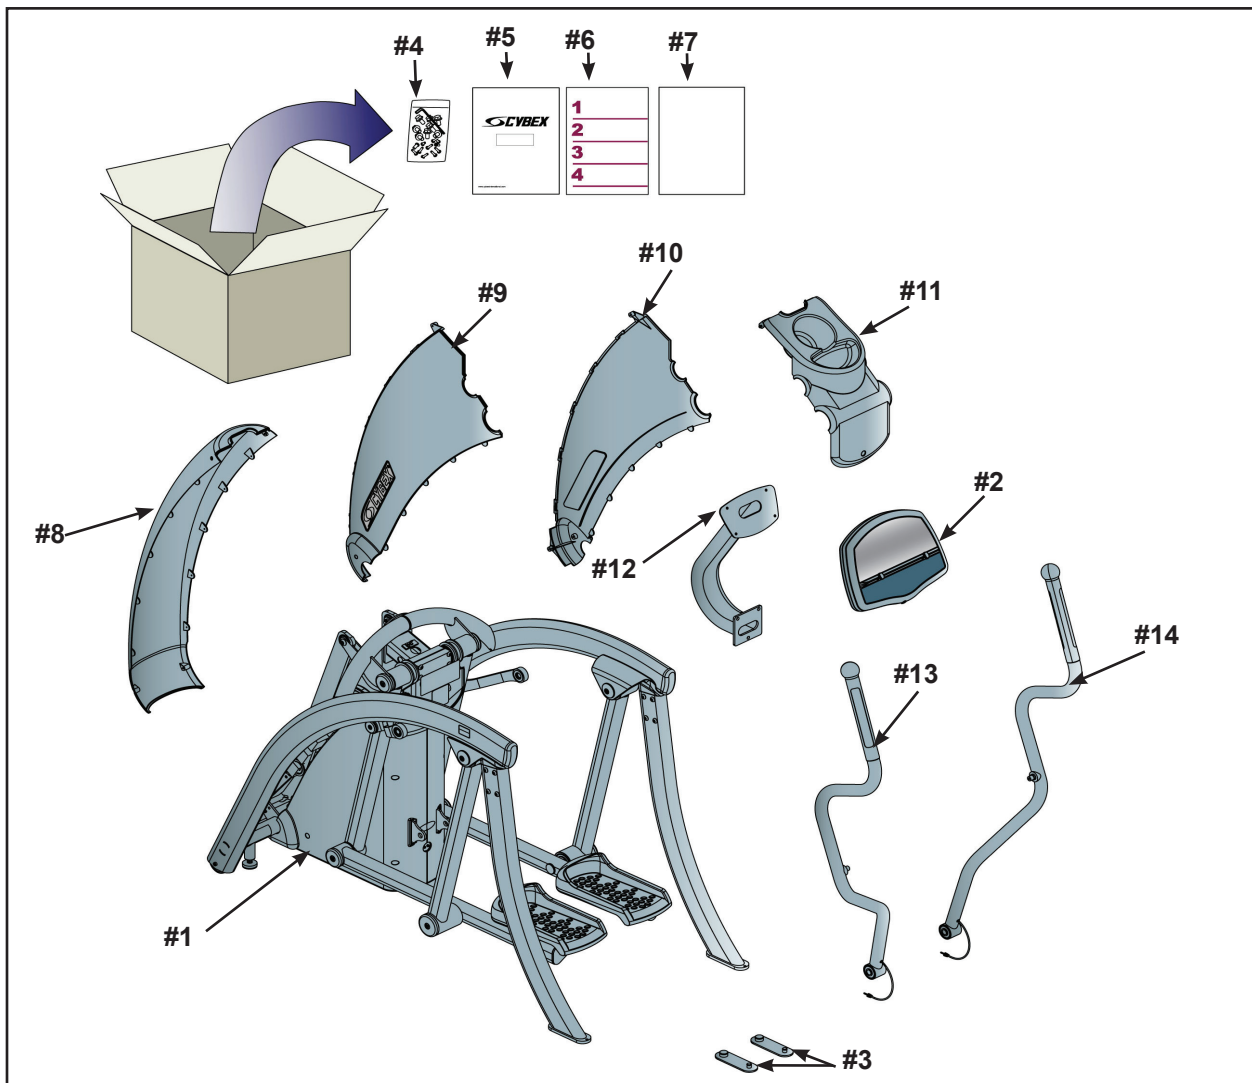

Figure 1
D. Check to be sure that the following items are present. Check off () each item as you find it. See Figure 1. If any of the parts are missing contact Cybex Customer Service.